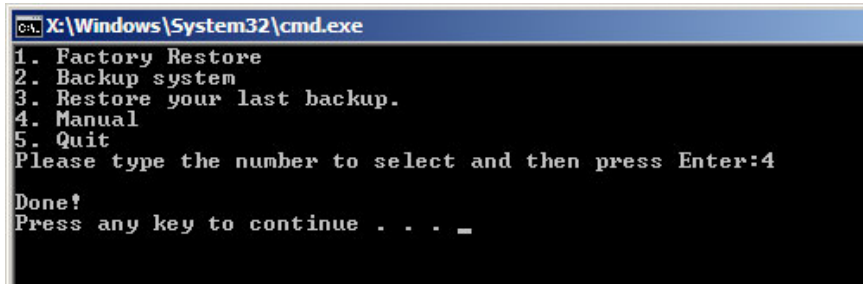

Figure A-18: Press Any Key to Continue
Step 11: When the image creation completes, a screen prompts as shown in **Figure A-18**.